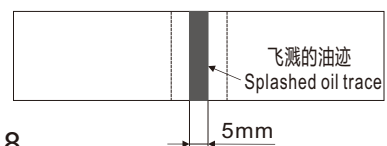

图8 Fig.8
6 旋梭油量调节 (图6、图7、图8) Oil mass Adjustment of Rotating Hook (Fig. 6, Fig. 7, Fig. 8)
2) 请在缝纫机转动时将油量确认专用纸插入(具体操作见图8所示)。
2) Insert the special oil mass confirmation paper when the sewing machine is rotating (detailed operations are described in Fig. 8).
1) 右图标样(见图8)根据不同的缝制工序需求进行增或减的微调整, 但应注意不要增加或减少过多。油量过少时会引起旋梭发热, 油量过多时会污染缝料。
1) The guide sample shown in the right-hand figure (see Fig. 8) may be finely adjusted (increased or reduced) as per different sewing processes; however, excessive increase or reduction shall be avoided. Too little oil mass may lead to rotating hook heating, and overmuch oil mass may lead to contamination of the sewing materials.